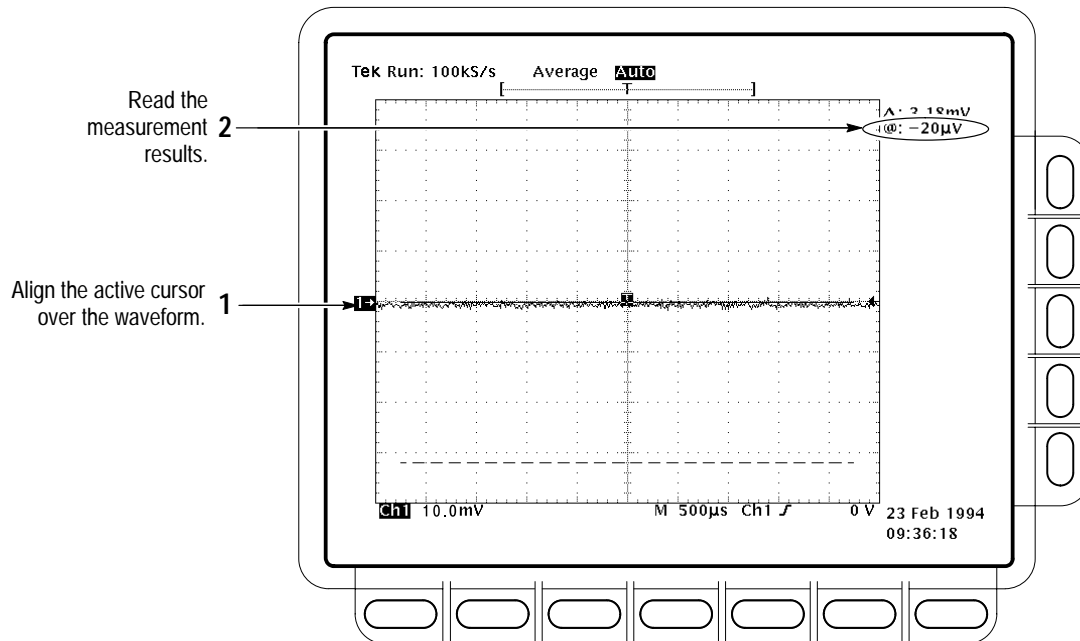

Figure 1–4: Measurement of DC offset accuracy at zero setting – TDS 684B shown
- d. *Measure the test signal:* Align the active cursor over the waveform by rotating the general purpose knob. Ignore the other cursor. See Figure 1–4.
- e. Read the measurement results at the absolute (@:) cursor readout, not the delta (Δ:) readout on screen. That is, read the offset relative to the ground reference. See Figure 1–4.
- Connect the output of a DC calibration generator through a dual-banana connector followed by a 50 Ω precision coaxial cable to one side of a BNC T connector. See Figure 1–5.
- Connect the Sense output of the generator through a second dual-banana connector followed by a 50 Ω precision coaxial cable to the other side of the BNC T connector. Now connect the BNC T connector to **CH 1**. See Figure 1–5.